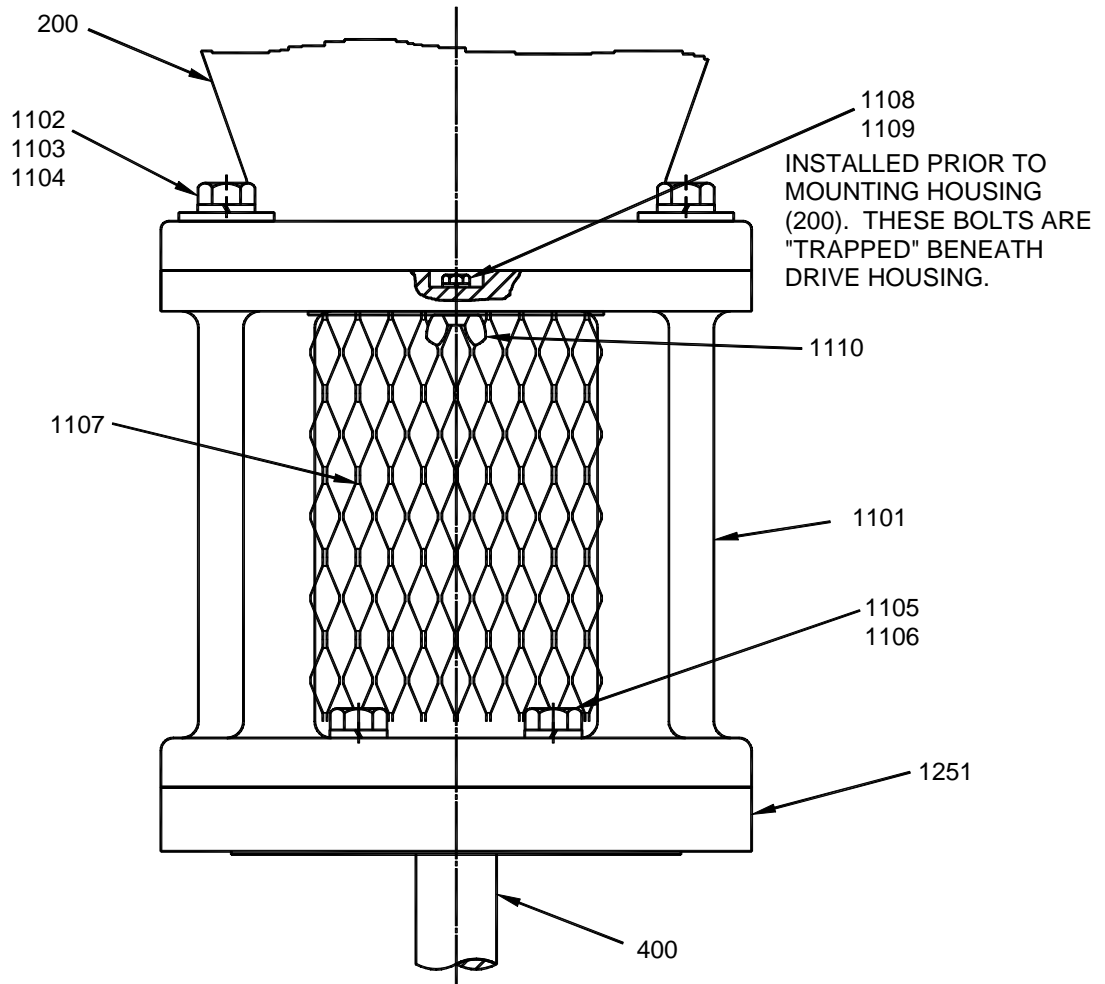

Figure 4: Handhole Cover Assembly
Figure 4: Handhole Cover Assembly .....	9
3. Install handhole cover bolts and lockwashers [1108, 1109] into the pedestal [1101]. Refer to *Figure 4, page 9*. Assemble pedestal to mounting flange using bolts and lockwashers [1105, 1106]. Torque bolts to the value shown in *Table 7, page 36*.
11. Install the handhole covers **[1107]** onto the pedestal. Tighten wing nut **[1110]** to previously installed bolt and lockwasher **[1108, 1109]**. Refer to *Figure 4, page 9*.
10. Install the handhole covers **[1107]** onto the pedestal. Tighten wing nut **[1110]** to previously installed bolt and lockwasher. Refer to *Figure 4, page 9*.
9. Install the handhole covers **[1107]** onto the pedestal. Tighten wing nut **[1110]** to previously installed bolt and lockwasher. Refer to *Figure 4, page 9*.
8. Install the handhole covers [1107] onto the pedestal. Tighten wing nut [1110] to previously installed bolt and lockwasher. Refer to *Figure 4, page 9*.
10. Install the handhole covers **[1107, 1716]** onto the pedestal. Tighten wing nut **[1110]** to previously installed bolt and lockwasher. Refer to *Figure 4, page 9*.